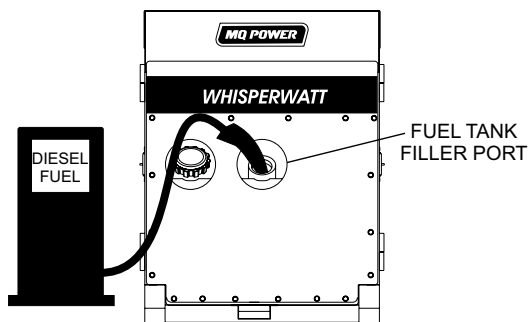

Figure 34. Fueling the Generator
2. Remove fuel cap and fill tank as shown in Figure 34.